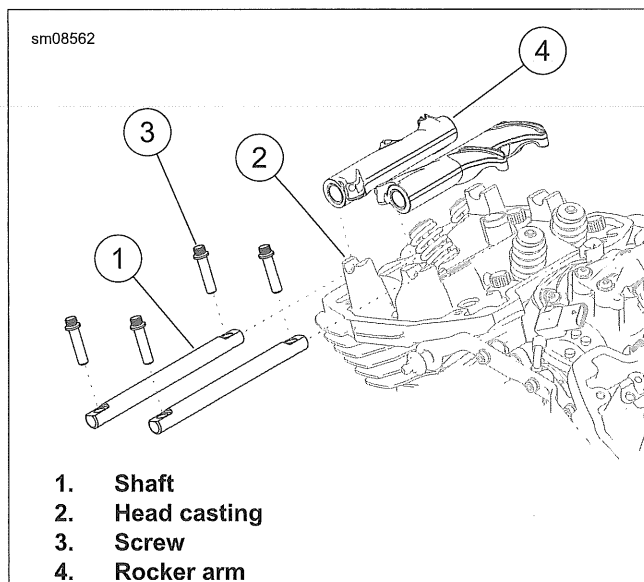

Figure 4-22. Remove Rocker Arms
- b. See Figure 4-22. Alternately loosen screws (3) until screws can be turned by hand.
- d. Remove rocker shaft (1) and rocker arm (4).
- b. See Figure 4-22. Install rocker arm (4) and rocker shaft (1).
- d. Install screws (3).